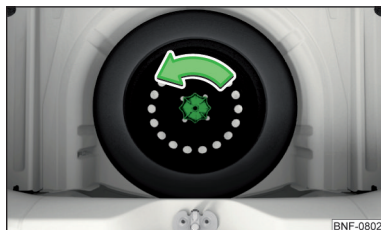

Fig. 150
The spare wheel is located in a well under the floor covering in the luggage compartment and is fixed in place with a fastening screw » Fig. 150.
- › Unscrew the locking screw in the direction of arrow » Fig. 150 and the remove the wheel.
- › Screw the locking screw against the direction of arrow until it stops » Fig. 150.